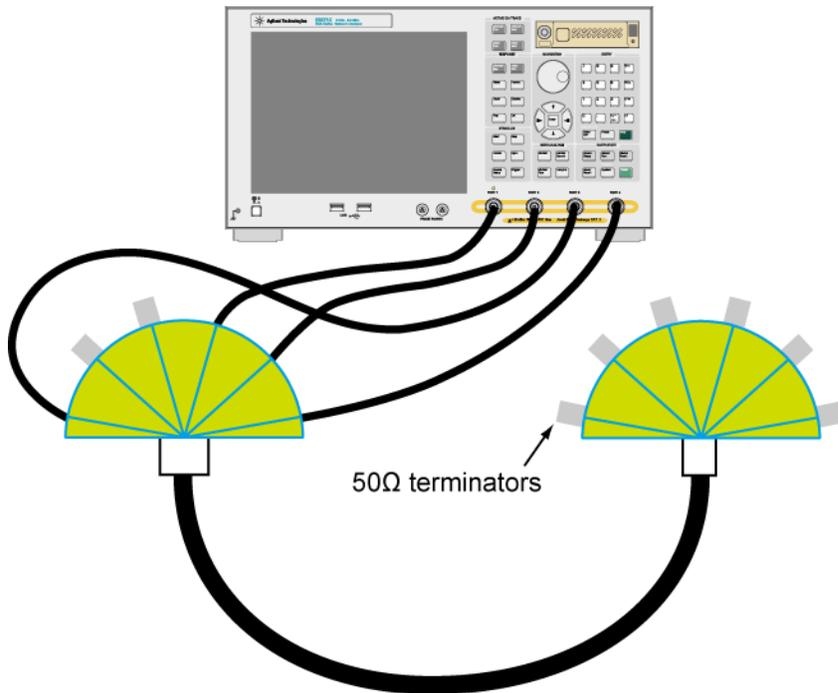
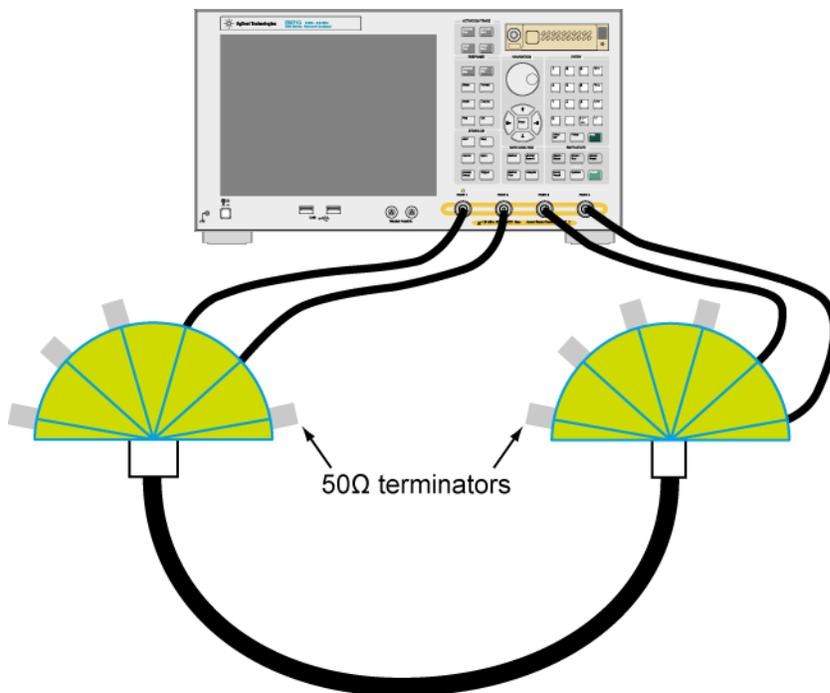

Figure 5-19 Connection Example for Near End Crosstalk measurement
Figure 5-20 Connection Example for Far End Crosstalk measurement
2. Connect the test fixture to the test port cables according to the Figure 5-19 Connection Example for Near End Crosstalk measurement and Figure 5-20 Connection Example for Far End Crosstalk measurement. Unused terminals should be terminated.